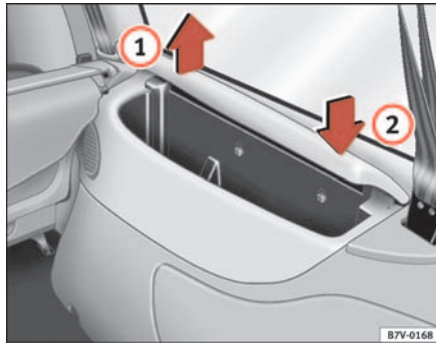

Fig. 103 Stowage compartment in the luggage compartment
To open, pull cover in the direction of the arrow ① ⇒ fig. 103.
To close, push cover in the direction of the arrow ② ⇒ fig. 103. ■